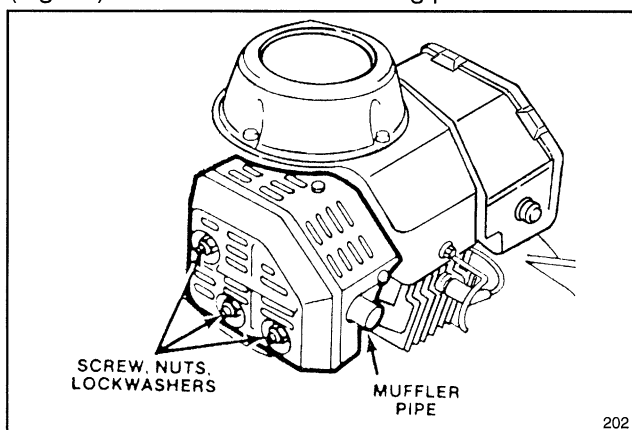

Figure 19
2. Use hard wood scraper and remove carbon from end of muffler pipe (Fig. 19).
3. Remove screw, two nuts, and lockwashers (Fig. 19). Slide muffler off mounting pins.
6. Reinstall muffler with screw, (2) nuts and lockwashers (Fig. 19). After cleaning exhaust port, make sure muffler gasket is still usable.